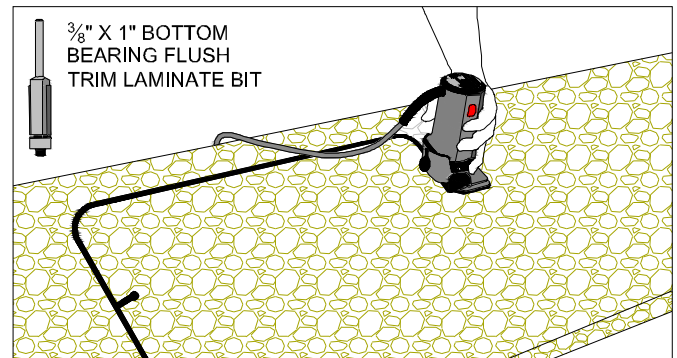

Figure 22A
- Use a laminate tilt-base trim router with a  $\frac{3}{8}$ " bottom bearing double-fluted flush trim bit, remove the laminate over the sink. (FIG. 22A)